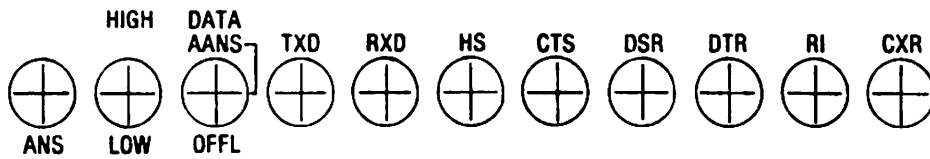

FIGURE 2 - CONTROLS AND INDICATORS
- B. Page 3-1 - The updated front view presented in the PSN figure 2 should be referred to instead of the version shown on Page 3-1 of the Racal-Vadic manual. On all subsequent front views, refer to the PSN updated figure.